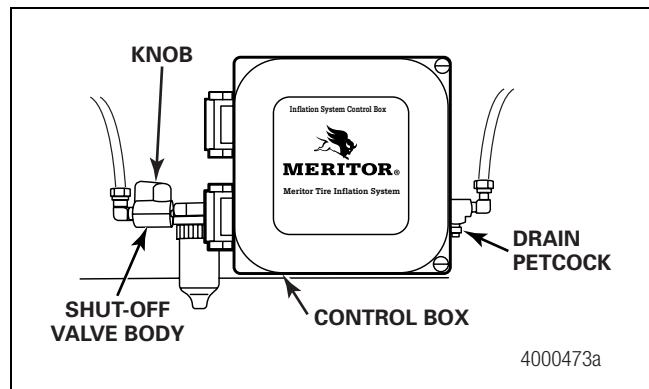

Figure 6.3
1. Turn the shut-off valve OFF at the control box to stop air delivery to the system. When the shut-off valve is OFF, the knob is perpendicular to the valve body. Figure 6.3.
2. Turn the drain petcock to open it and drain the pressurized air from the system. Figure 6.3.